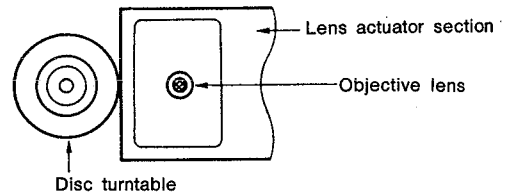

Fig. 9
6. Inspection of the objective lens (Fig. 9)